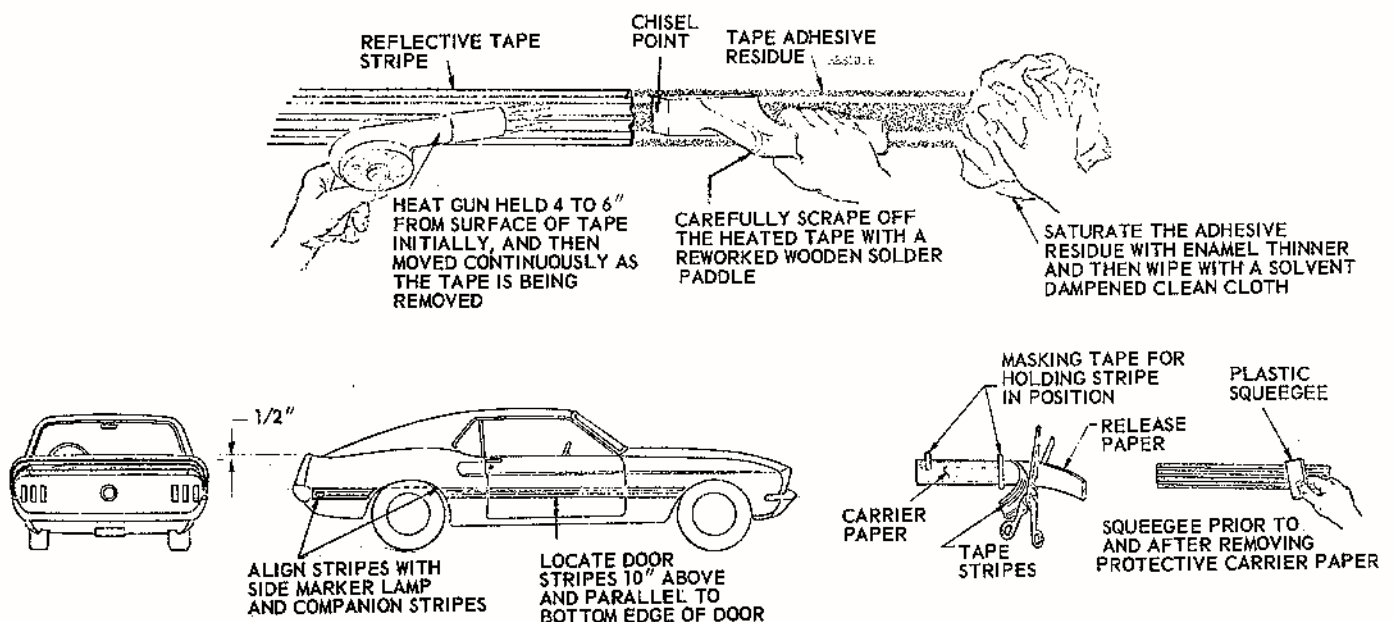

Figure 16 - (Article 1912)
2. When the tape begins to soften, move the gun along with stripe while scraping the tape from the panel using a wooden solder paddle reworked as shown on Fig. 16.
When replacing stripes on all panels, the above installation procedure and the stripe locations shown on Fig. 16 should be used. In addition, the following installation sequences should be followed: